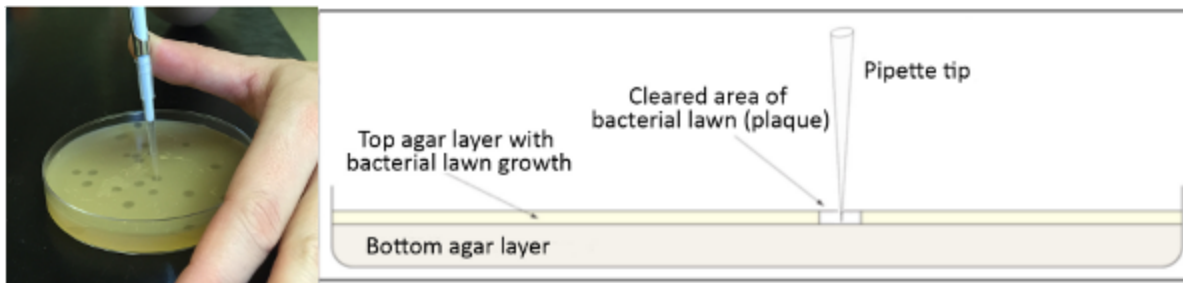

Figure 5.4-1. Picking a plaque from an agar plate.
2. Holding the pipettor perpendicular to the agar surface, stab the top agar in the center of the plaque (Figure 5.4-1).